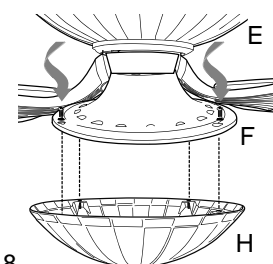

Fig. 8
8. Remove one screw from inside glass shade (H) and partially loosen the other three screws. Align the three loosened screws in glass shade (H) with slotted holes in shade fitter (F). Twist glass shade to lock. Re-insert screw that was previously removed and secure all four screws with a Phillips screwdriver. [Fig. 8]